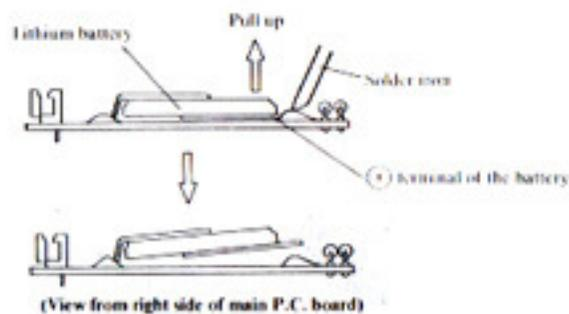

Figure 10-4
- (a). Dissolve the solder on the + terminal side of the battery sufficiently with a solder iron. And pull up the + terminal side of the battery with your hand while the solder is in a liquid (refer to figure 10-4).